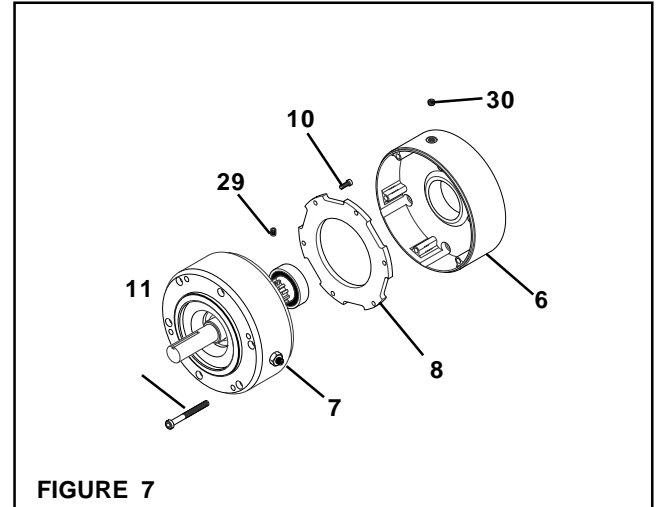

FIGURE 7
11. Secure the Disc Plate (Item 8) to the Piston (Item 5) using the six Socket Head Cap Screws (Item 10); then, alternately and evenly tighten the six Socket Head Cap Screws (Item 10) to 40 In. Lbs. [4.5 N•m] torque (See Figure 7).
1. Remove the six Socket Head Cap Screws (Item 11) (See Figure 7).
2. Remove the Pipe Plug (Item 30); then, loosen the Set Screw (Item 29) (See Figure 7).
3. Separate the two halves of the FMBES-CC (See Figure 7).
4. Remove the six Socket Head Cap Screws (Item 10); then, remove the Disc Plate (Item 8) from the Piston (Item 5) (See Figure 7).